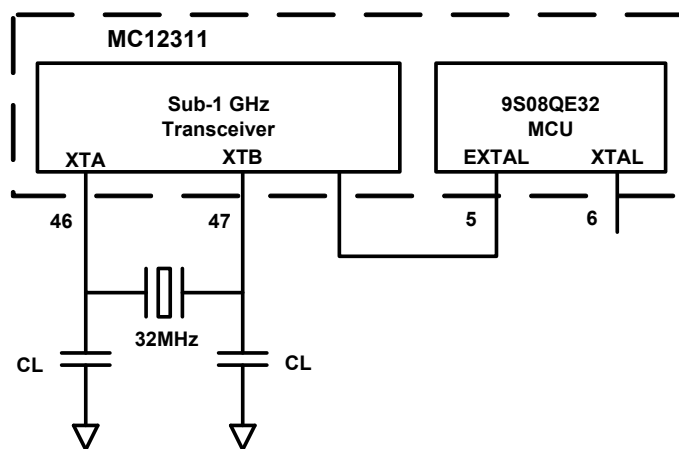

Figure 4. MC12311 Single Crystal System Clock Connection
- The transceiver can be programmed to provide a ClkOut programmable frequency clock output that can be used as an external source to the CPU. As a result, a single crystal system clock solution is possible (see Figure 4).